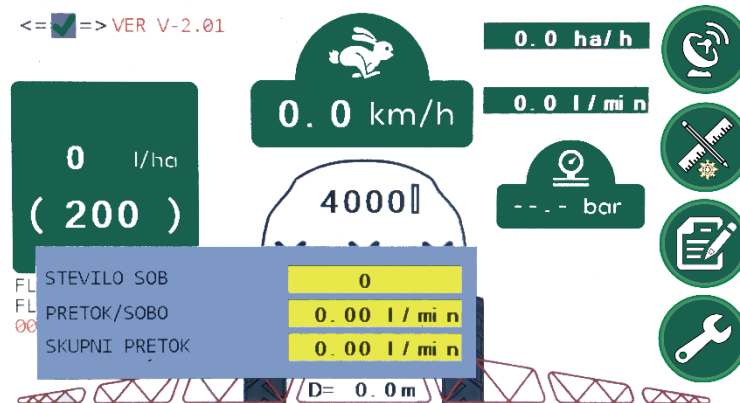

Figure 38
- The following window opens where we can monitor: number of active nozzles, flow per nozzle and total flow of active nozzles (Figure 38).